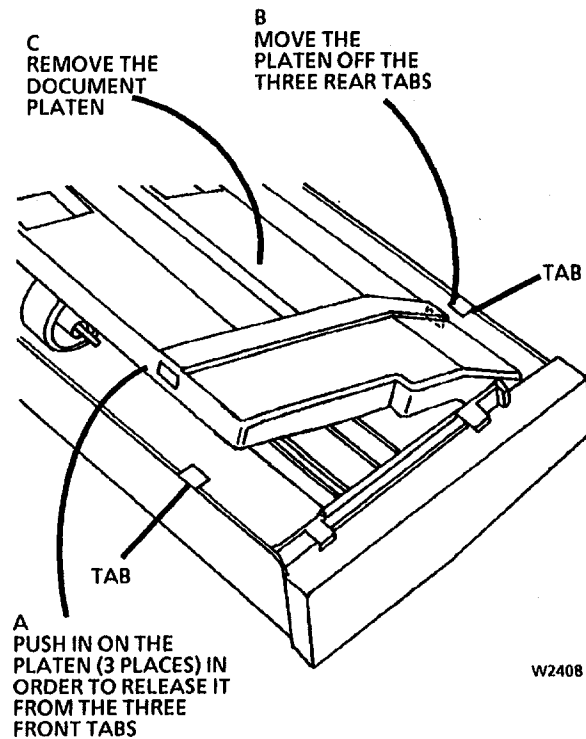

Figure 1. Removing the Document Platen
2. (Figure 1): Remove the Document Platen.